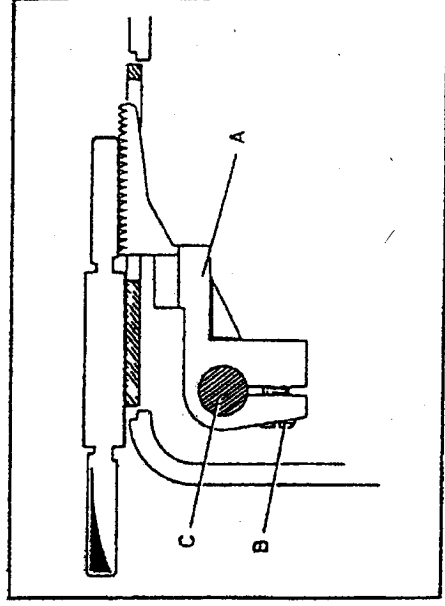

Fig. 1
- place gauge n° 979101000-00 (fig.1) on the needle plate, turn balance wheel slowly by hand and verify that the height of the teeth from the needle plate is between 0.7 and 0.9 mm., i.e.: on 0.9 mm. the teeth «pass» without touching the gauge; on 0.7 (marked by the transversal red lines) they do not «pass» and move the gauge.